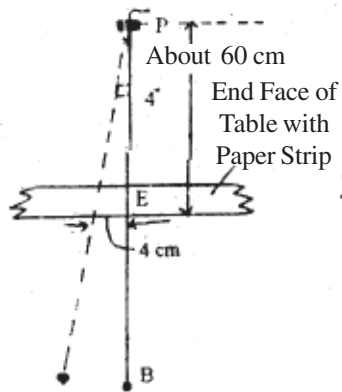

Fig. 4.3
- (v) Pull the bob to one side and release so that it oscillates with an amplitude of less than 4° (Fig 4.3). If height of P above table is about 60 cm, then maximum displacement of thread from central mark is not more than about 4 cm.